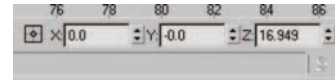

Figure 7.5 Transform type-in boxes.
2. Select the Move tool, then go to your Transform type-ins at the bottom of the screen (three boxes with numeric values below the Timeline slider). Figure 7.5 shows the Transform type-ins.